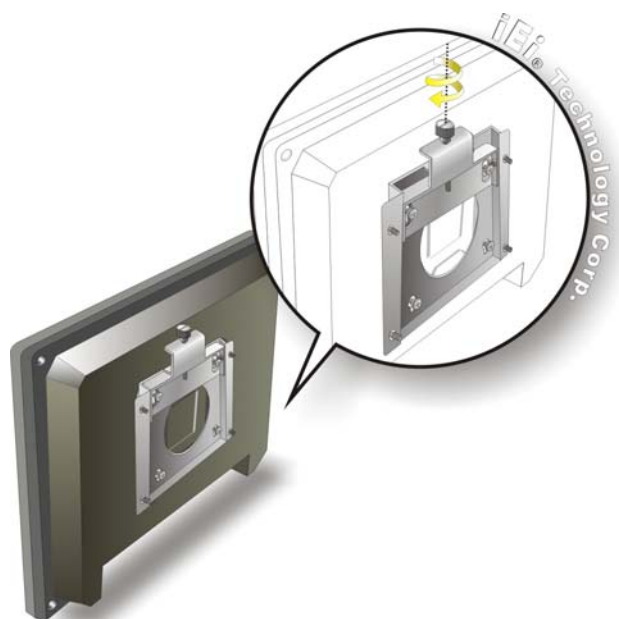

Figure 4-9: Secure the Panel PC
Step 9: Secure the panel PC by fastening the retention screw of the wall-mounting bracket. (Figure 4-9).